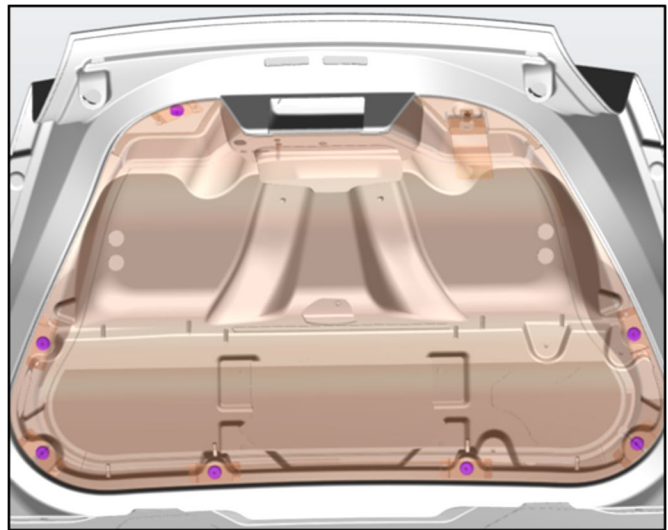

Figure 4
4. Use a trim removal tool to release the boot lid trim from the boot lid (refer to Figure 4).